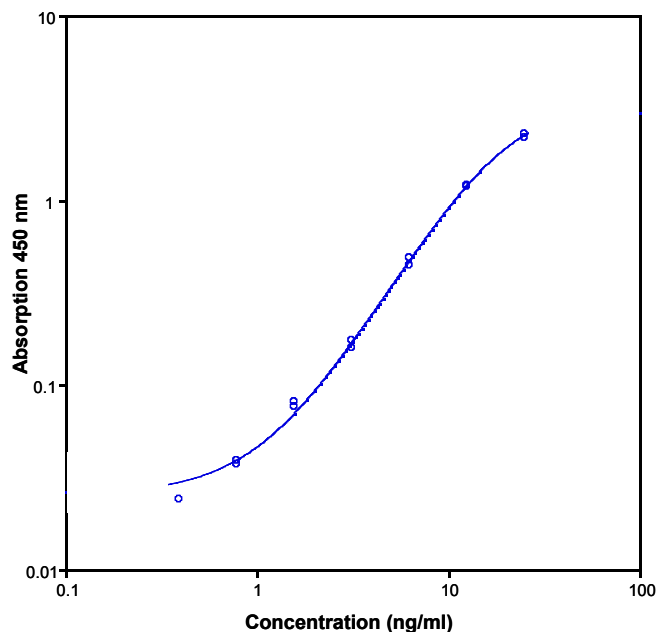

Fig. 7 Representative standard curve for Human sL-selectin ELISA Kit. Human L-selectin was diluted in serial 2-fold steps in Sample Diluent.
- A representative standard curve is shown in Figure 7.